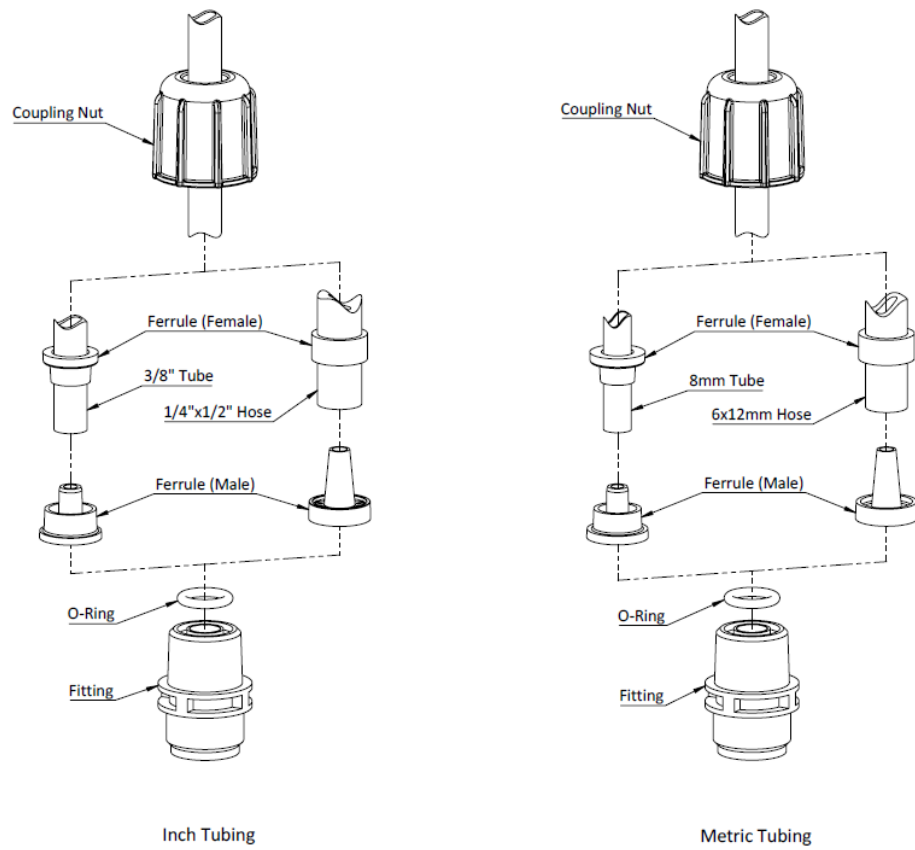

Figure 2: Ferrule Assembly
4. Slide the female ferrule down the tubing and with your fingers, press tightly into the male ferrule (Figure 2).